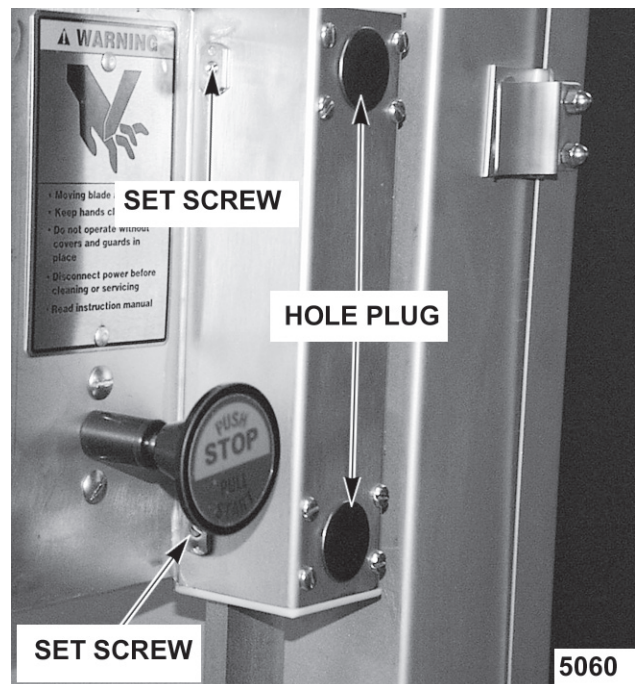

Fig. 15
1. Loosen the two set screws on the side of the slide bar housing (Fig. 15).
2. Remove the two hole plugs (Fig. 15) on the front of the housing.
4. Raise the slide bar and slowly tighten the two side set screws (Fig. 15) until the bar is just held in place.
7. Reinstall the hole plugs (Fig. 15).